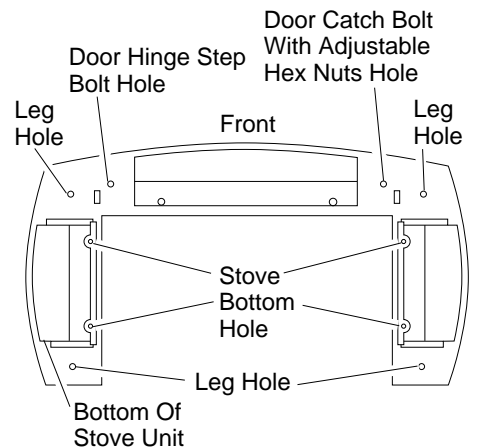
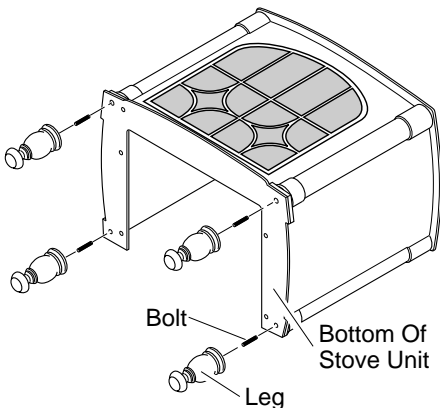
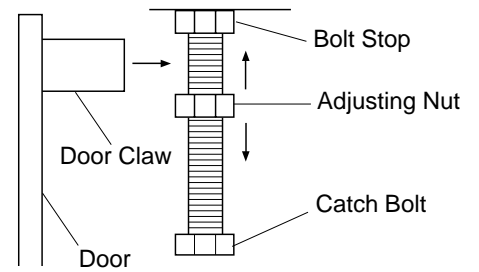

Figure 9 - Locating Threaded Holes for Stove Bottom, Legs, and Door Attachment
Figure 10 - Attaching Stove Legs
Figure 13 - Catch Bolt and Door Claw Orientation
8. Fasten each leg to stove with four (4) M8 x 1.25 - 20mm bolts. Use a flat washer and lock washer with each bolt. Tighten bolts into threaded holes on stove body (see Figure 9, page 5 and Figure 10). Use an adjustable wrench or a 12mm socket.
9. Fasten stove bottom to stove with four (4) M6 x 1 - 25mm bolts. Use a flat washer and lock washer with each bolt. Tighten bolts into threaded holes on stove body (see Figure 9, page 5 and Figure 10). Use an adjustable wrench or a 10mm socket.
10. Attach stove door by inserting step bolt through door hinge pivot hole and into threaded hole in stove body (see Figure 9, page 5 and Figure 10). Use an adjustable wrench or a 12mm socket to fasten step bolt. Tighten step bolt until snug. Make sure door moves freely.
11. Install door catch bolt (M8 x 1.25-55mm with two M8 hex nuts) into threaded hole on stove body (see Figure 9, page 5). Use an adjustable wrench or a 12mm socket. The catch bolt has two hex nuts attached to it (see Figure 13). The top nut is a bolt stop and the bottom nut is for door leveling adjustment.